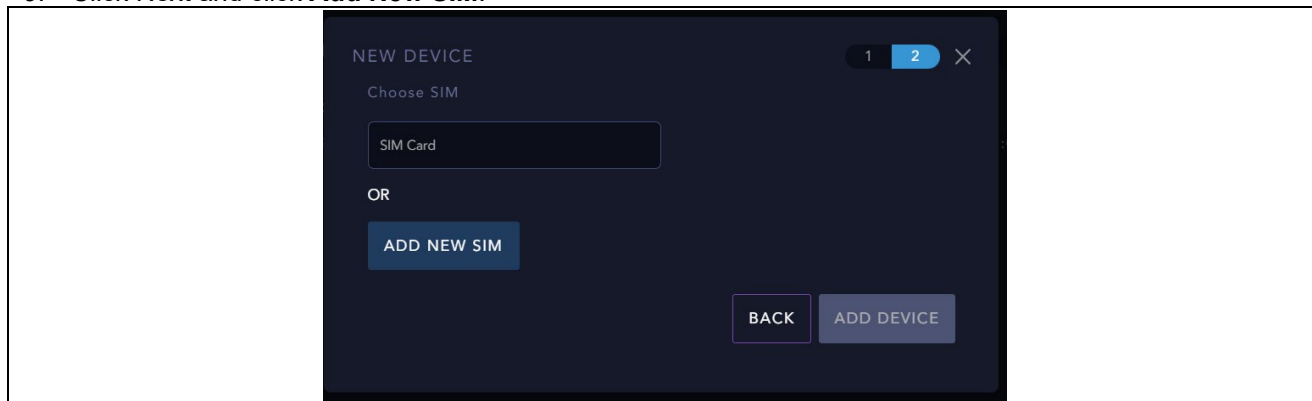

Figure 14. Activating the SIM card on Launchpad
- SIM cards cannot be activated more than once. If a SIM card has been activated, the SIM card activation will fail when trying to add a new SIM (see Figure 14). To verify whether the SIM card has already been activated, please contact MicroAI support through <https://renesas.micro.ai> by logging into your account and clicking on Contact Support in the dropdown menu or at the bottom of the home page.